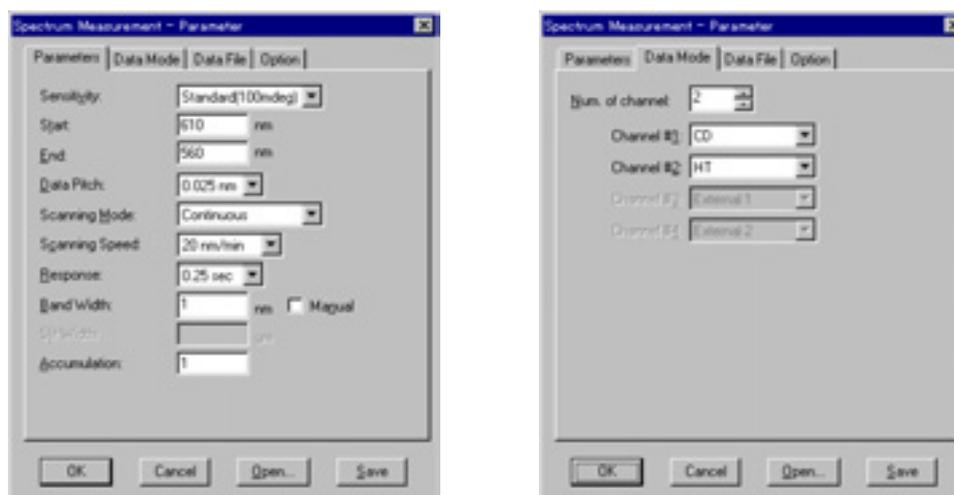

Fig. 4.8 Measurement parameters (wavelength accuracy check)
- (1) Start up the Spectrum Measurement program.
- (2) Select the [Parameter...] command from the [Measurement] menu, and designate the measurement parameters shown in Fig. 4.8.